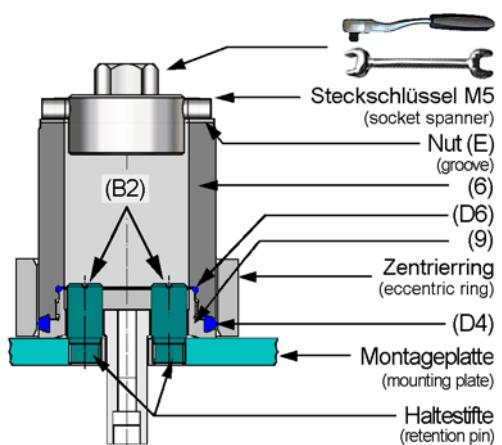
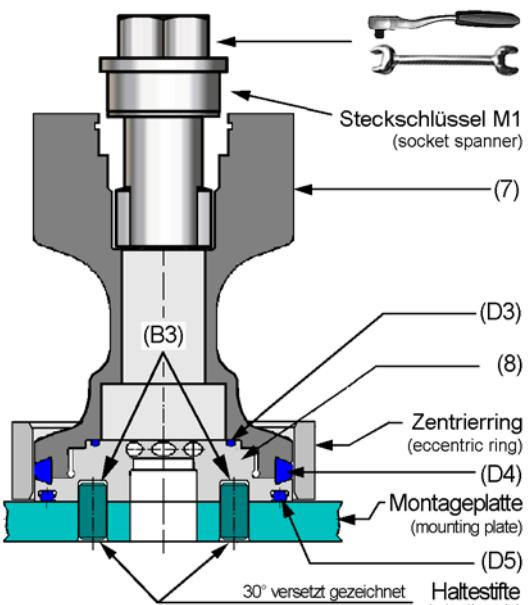
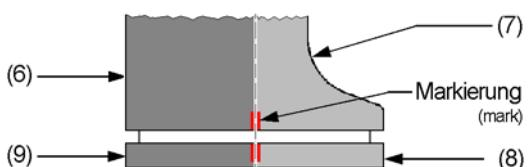

fig. 4
fig. 5
fig. 6
- Unscrew the lock nut (11) and remove the disc (10).
- Separate the lower piston (6) from the upper piston (7) in axial direction.
- Take off the split washer (13).
- Position the piston plate lower (9) about the two holes (B2) in the retention pin (see fig. 4 /page 9).
- Position the mounting lever M5 into the slot (E) (fig. 4/page 9) and unscrew the piston (6) from the lower piston plate (9).
- Unscrew hexagon screw (14)(4x).
- Unscrew the upper piston (7) about the holes (B3) and the retention pin. Counter with the hook wrench M4 at the hole (B1) (fig. 5 /page 9).
- Screw in piston plate (8) resp. (9) without the seal (D4) to the metal limit stop in the piston (6) resp. (7) and make a coloured mark (fig. 6 /page 9).
- Screw out the piston plate (8) resp. (9) of the piston (6) resp. (7).
- Push the seal (D4) into the piston (6) resp. (7) and screw the piston plate (8) resp. (9) into the pistons (6) resp. (7) by hand.
- Position the eccentric ring (M3) on the seal (D4) (fig. 5 /page 9).
- Clamp the mounting plate into the vice and fix the piston plate (8) resp. (9) (see fig. 4 /page 9 resp. fig. 5 /page 9).
- Position the socket spanner M1 resp. M5 and screw the piston (6) resp. (7) up to the final limit mark (fig. 6 /page 9).